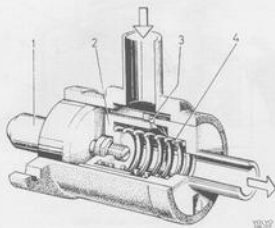

Fig. 2-168. Auxiliary air regulator
At cold start, the auxiliary air regulator opens (how much will depend on the temperature) and admits additional air into the inlet duct. Gradually, as the engine heats up, the capillary tube (1, Fig. 2-168) expands and presses back the regulator slide (2) which, at $+60^{\circ}\text{C}$ (140°F), completely shuts off the through-flow area.